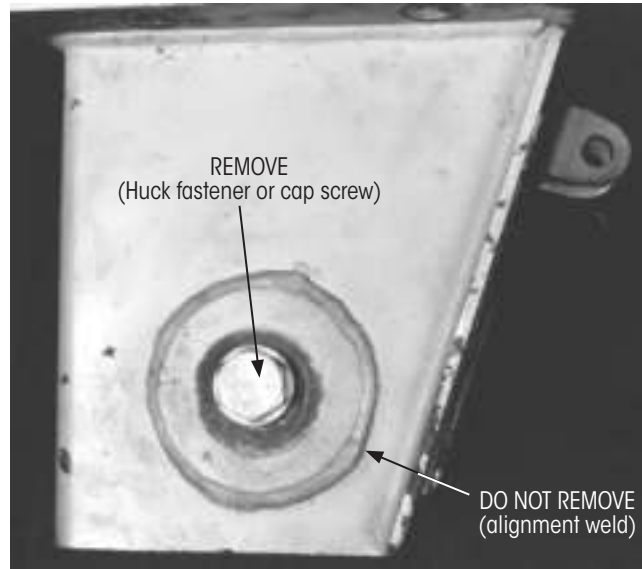

Figure 7: Removing welded collar pivot bolt
**IMPORTANT:** DO NOT remove the alignment weld (Figure 7). On a frame bracket with the welded collar style pivot connection, the bushing can be replaced without affecting axle alignment.